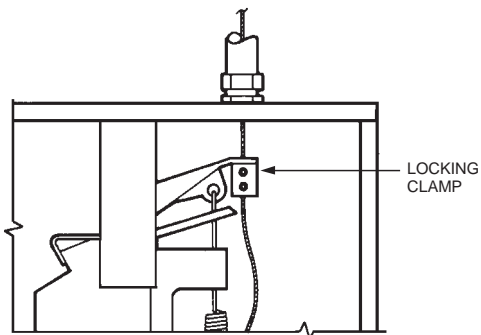

FIGURE 23
2. Starting at the regulated release assembly, feed wire rope up through hole in regulated release mechanism locking clamp, allowing excess wire rope to hang down. (Do not tighten set screws in locking clamp at this time.) See Figure 23.